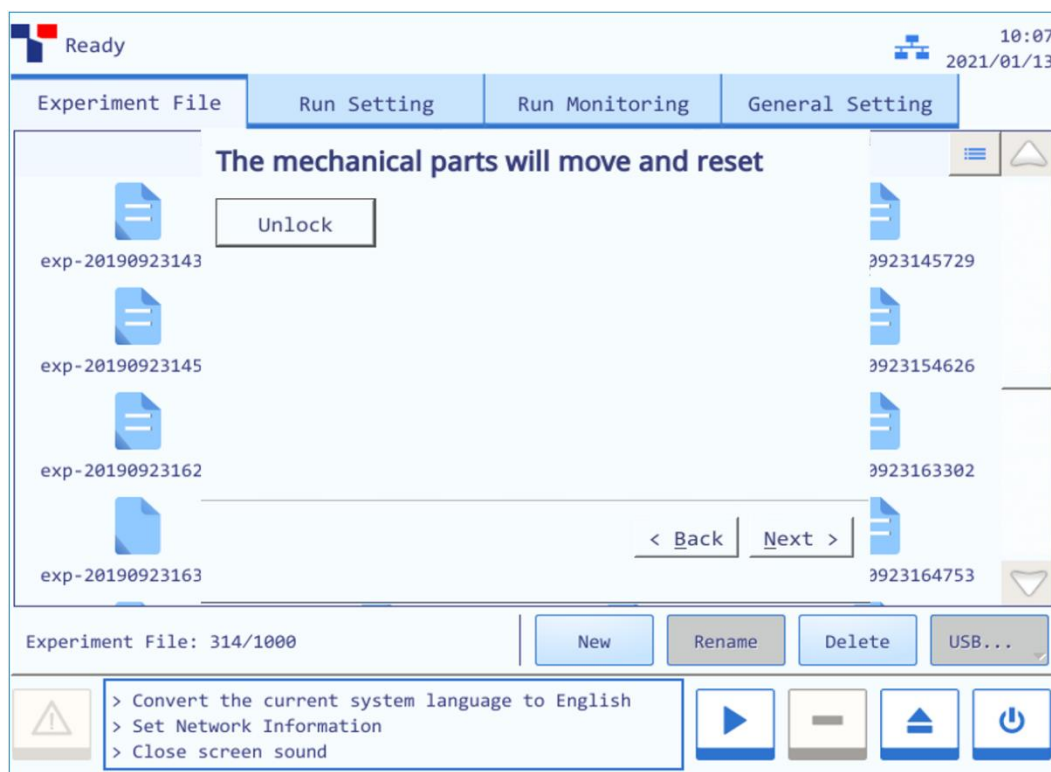

Figure B-5. Instrument System Software - Unlock the Gentier Instrument (2)
**2nd step:** If the transport lock has been removed, press < **Next** > and the instrument system software interface will be as shown in figure B-5.